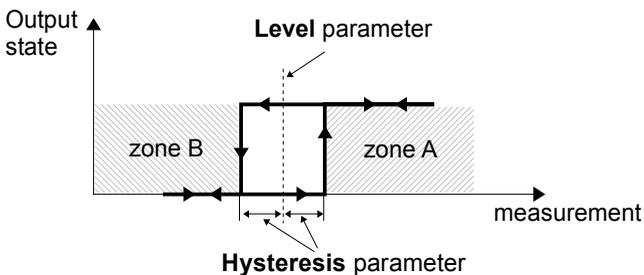
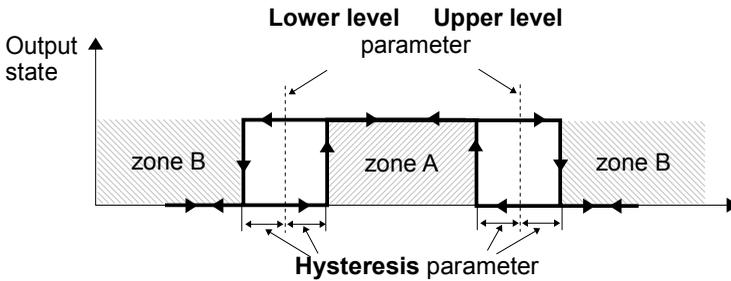
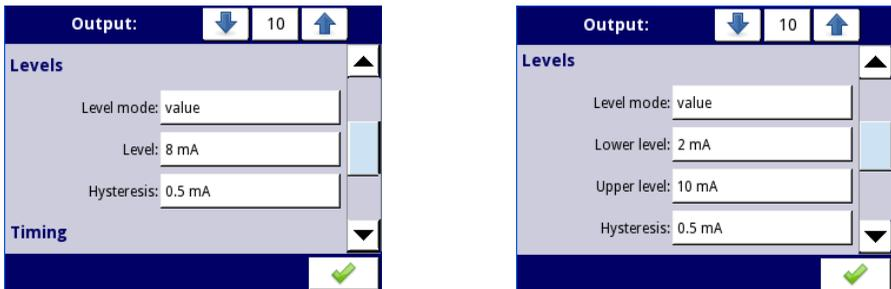

Fig. 7.83. One threshold control of the virtual relays
Fig. 7.84. Two threshold control of the virtual relays
Fig. 7.85. Levels settings for **Mode: above and below level** (left) and **inside range and outside range** (right)
- **Mode** - this parameter allows the user to select the method of operation of the output, the **Mode** parameter has the following options (see **Fig. 7.83** and **Fig. 7.84**):
Levels parameter block (see **Fig. 7.83**, **Fig. 7.84** and **Fig. 7.85**)
- **Hysteresis** – by defining this parameter the user can move the level for changes in the output state (see **Fig. 7.83** and **Fig. 7.84**),